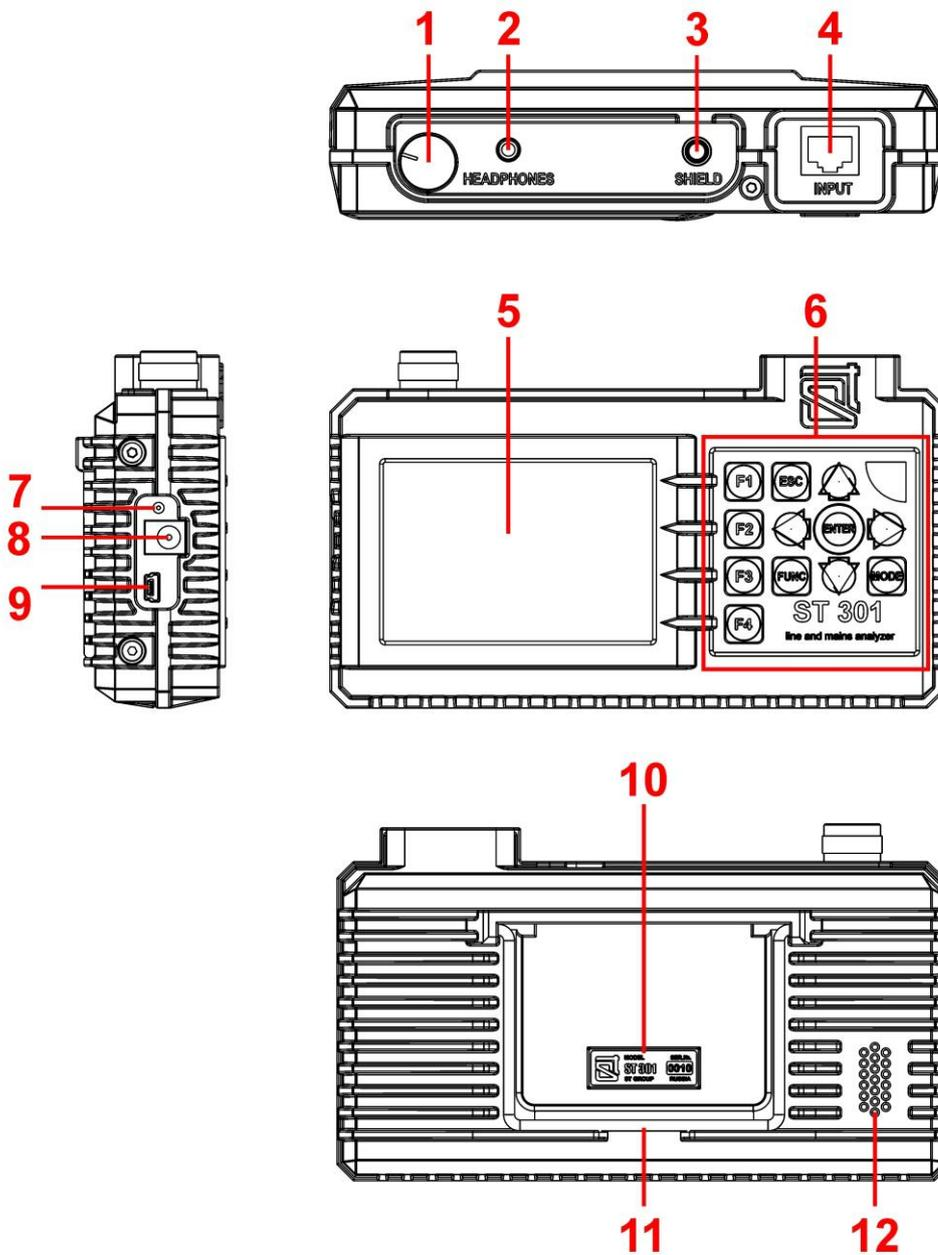

Fig.2
The appearance of the main unit is shown in Fig.2
Automated and manual control modes of the Switch allow to connect all combinations of wire pairs of a multi-wire cable to the RJ45 socket "INPUT" (Fig.2, item 4).
To do this, insert the charger plug into the connector (Fig.2, item 8) on a side panel of the Analyzer and connect the charger to the 220 V / 50 Hz power mains.
Charging is followed by a red luminescence of the indicator of connection of the charger (Fig.2, item 7) on a side bar of the Analyzer.